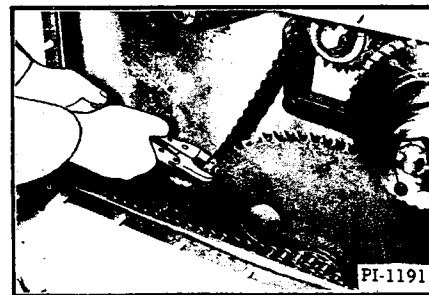

Fig. 96 Reconnect Intermediate Chain
7. Reconnect the intermediate chain with a gripping plier (Figure 96).